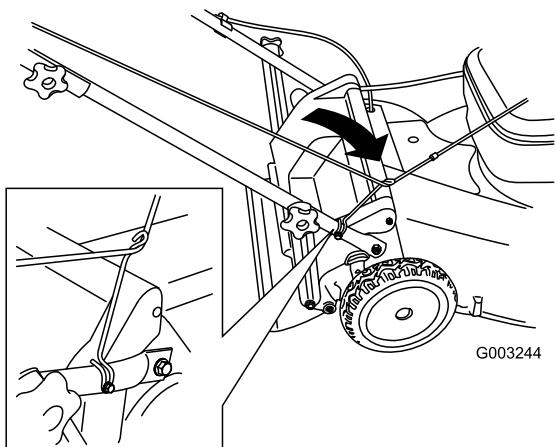

Figure 35
3. Route the starter rope around the lower rope guide (Figure 35).